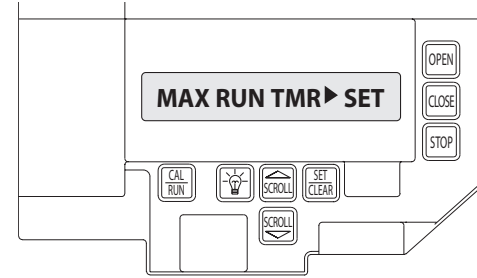

Figure 15
- 2) Press SCROLL  (up or down) until display reads "MAX RUN TMR > SET." **Figure 15.**